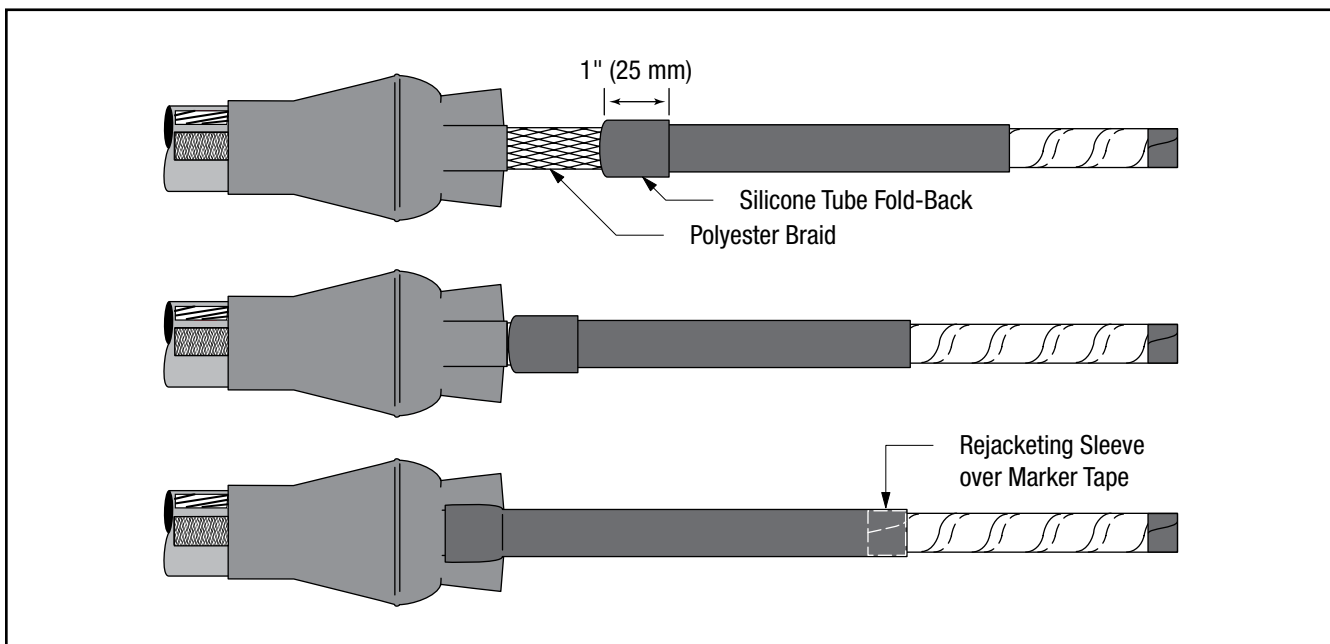

Figure 15
- 5.6 Slide rejacketing sleeve until inner polyester braid is adjacent to breakout boot finger (*Figure 15*)
- 5.7 Fold outer silicone tubing back on itself for 1" (25 mm) (*Figure 15*) and trim off exposed polyester braid.
- 5.8 Slide rejacketing sleeve assembly down until folded tube contacts edge of breakout boot finger (*Figure 15*).
- 5.9 Pull folded silicone tube section down onto breakout boot finger (*Figure 15*).
**Note: Rejacketing tube end should align with upper edge of installed marker tape (*Figure 15*). Minor tube adjustments can be made as needed.**